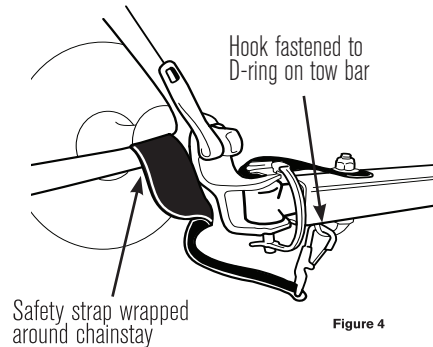

Figure 4
7. Wrap safety strap twice around inside of chain stay and then over hitch body. Fasten hook to D-ring on tow bar end. **Figure 4**